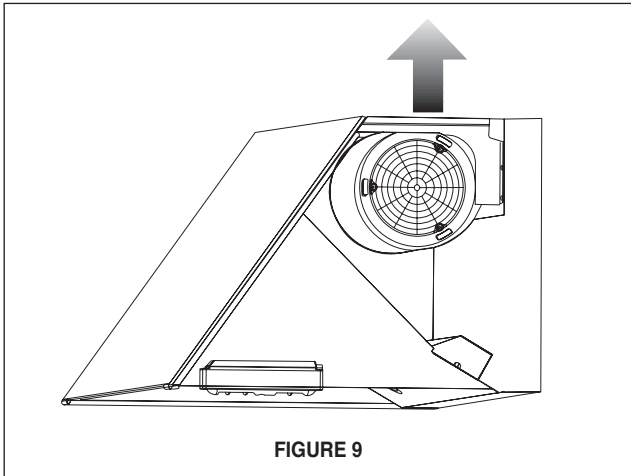

FIGURE 9
3. The rangehood is shipped from the factory in the up vent position as indicated in **FIGURE 9**. For top vent applications, no additional adjustments are necessary.